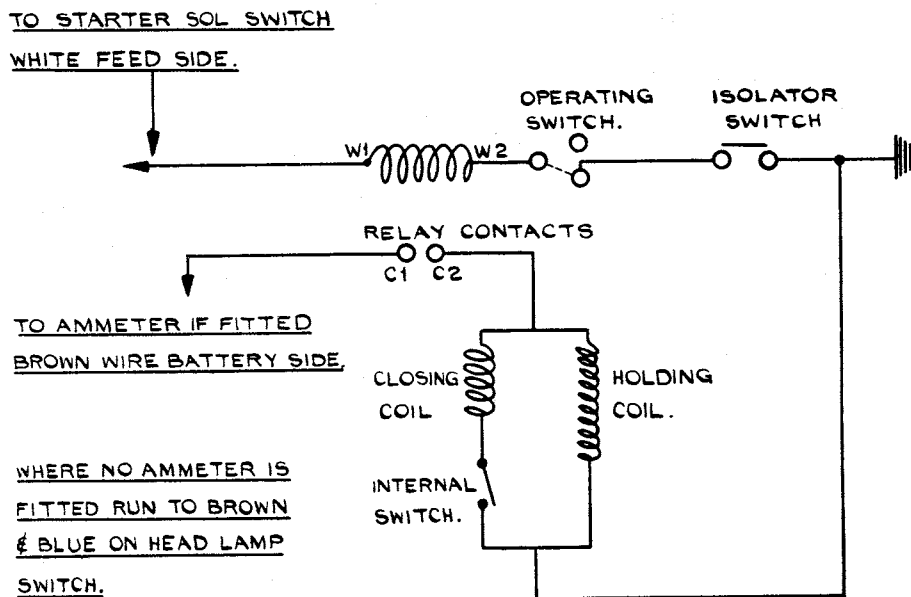

Fig. 5
#### (Fig. 5—Wiring Diagram)
### (iv) Fault Locating. (See Fig. 5)
- (a) A dangerous condition can arise if that part of the circuit between "W2" (Fig. 5) on the relay to the non-earthed side of the isolator switch becomes accidentally earthed. Any earthing would bring in the overdrive on all gears including reverse.